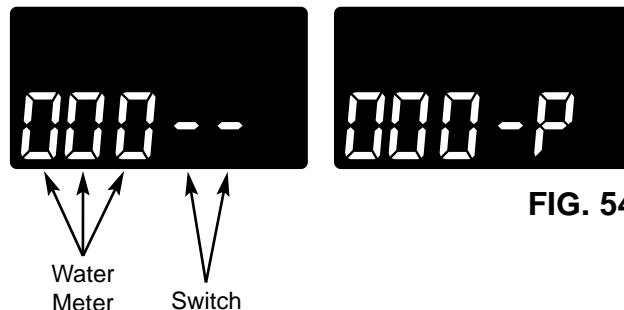

FIG. 54
3. The letter "P" and a dash (or dashes) indicate position switch operation (See Figure 54). If the letter appears, the switch is closed. If two dashes show, the switch is open.